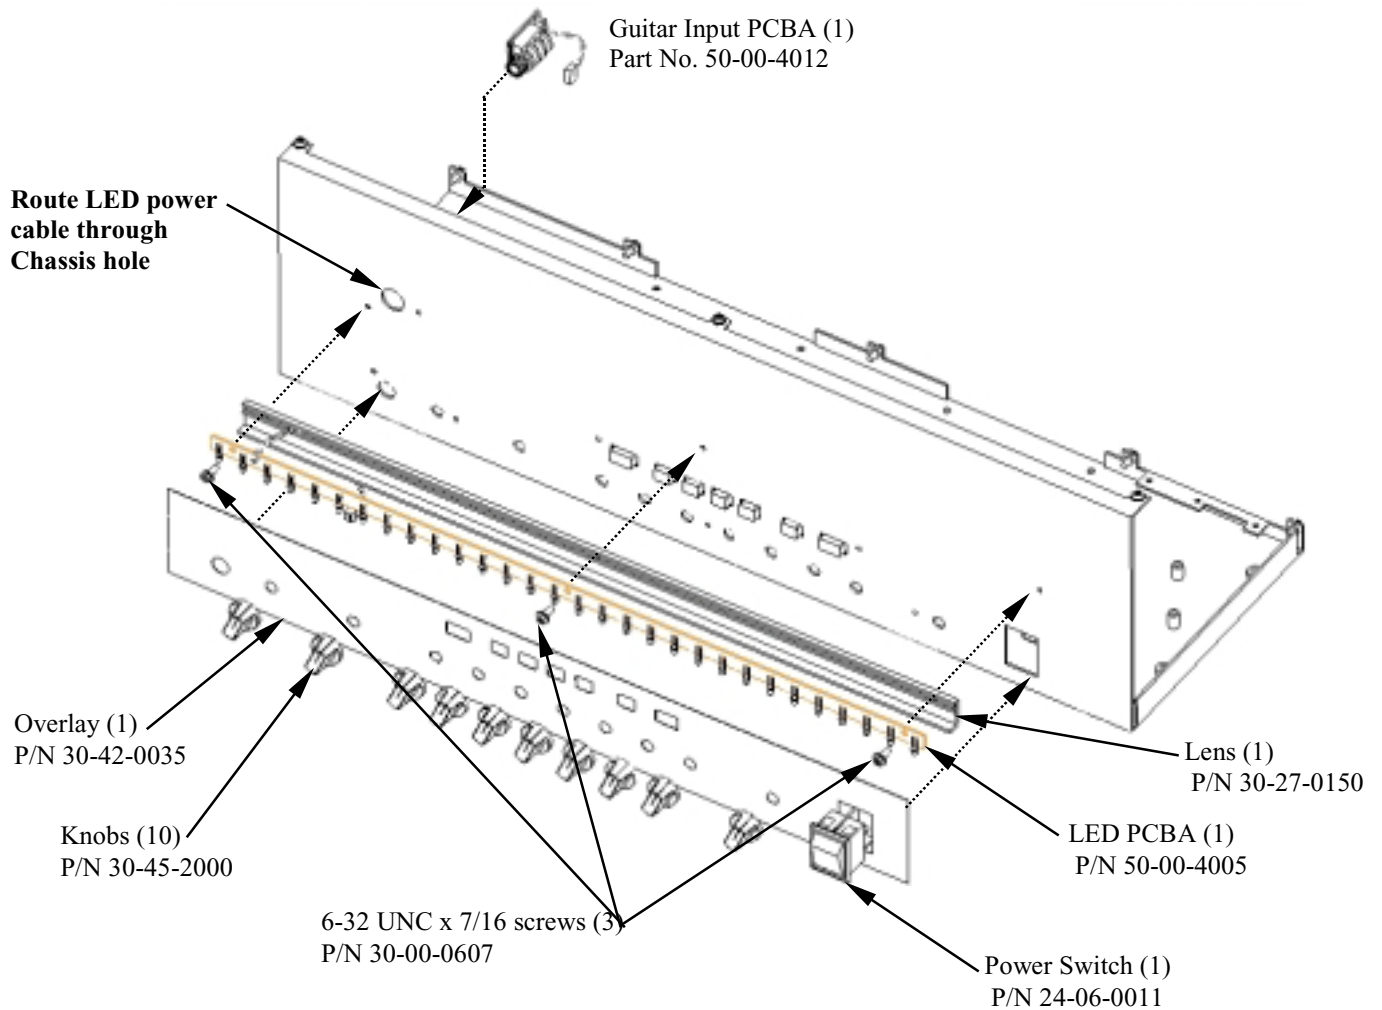

Figure 4 (front view)
Step 3: Front panel assembly (see figure 4):
- e. Install Power Switch. Push firmly until Switch seats flat against front panel Overlay. See figures 4 and 5 for position and correct orientation.